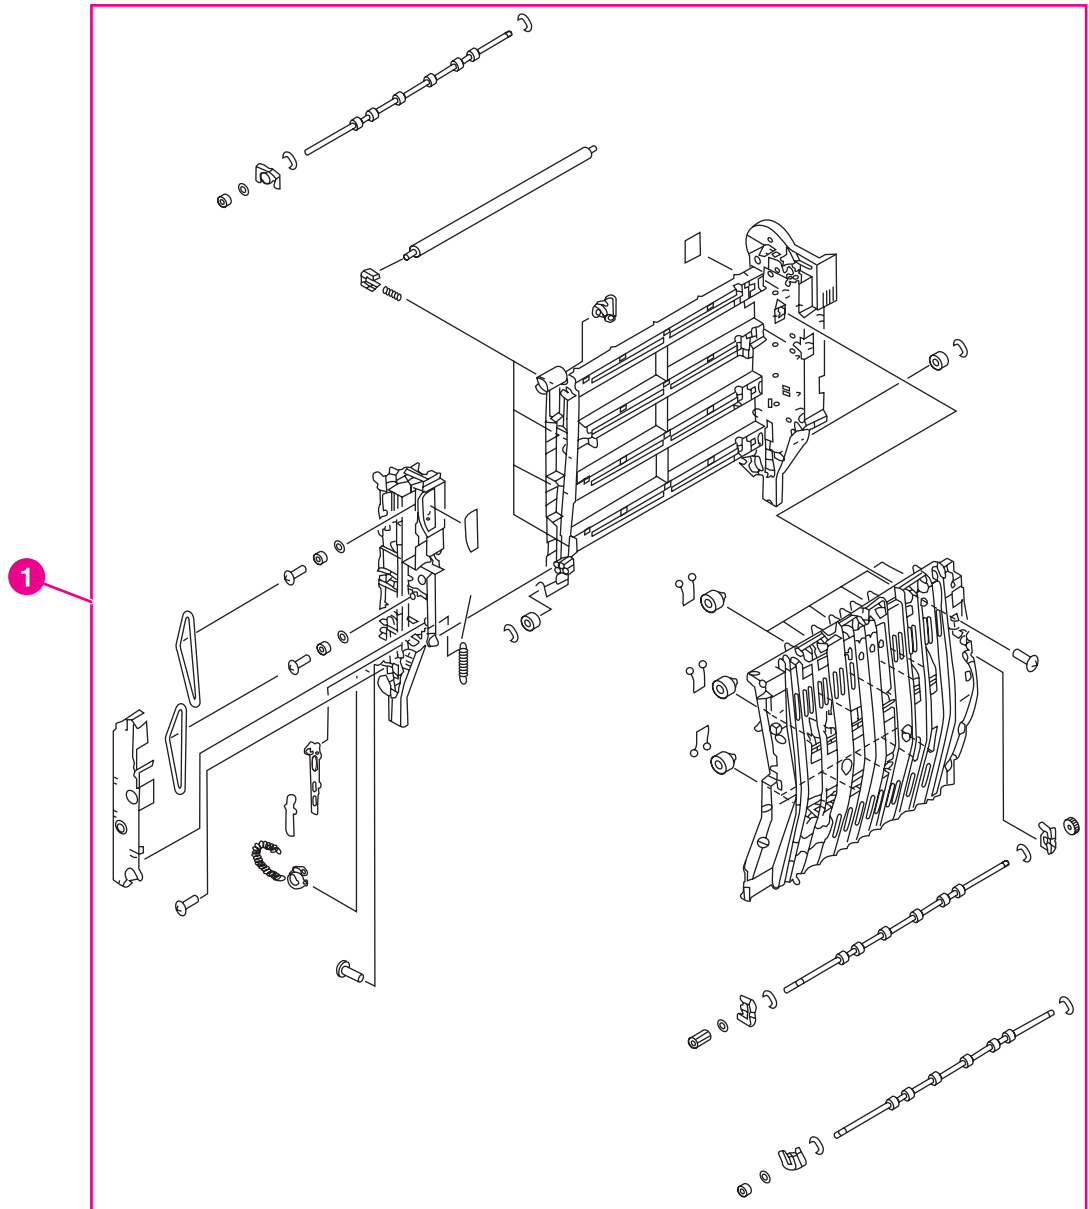
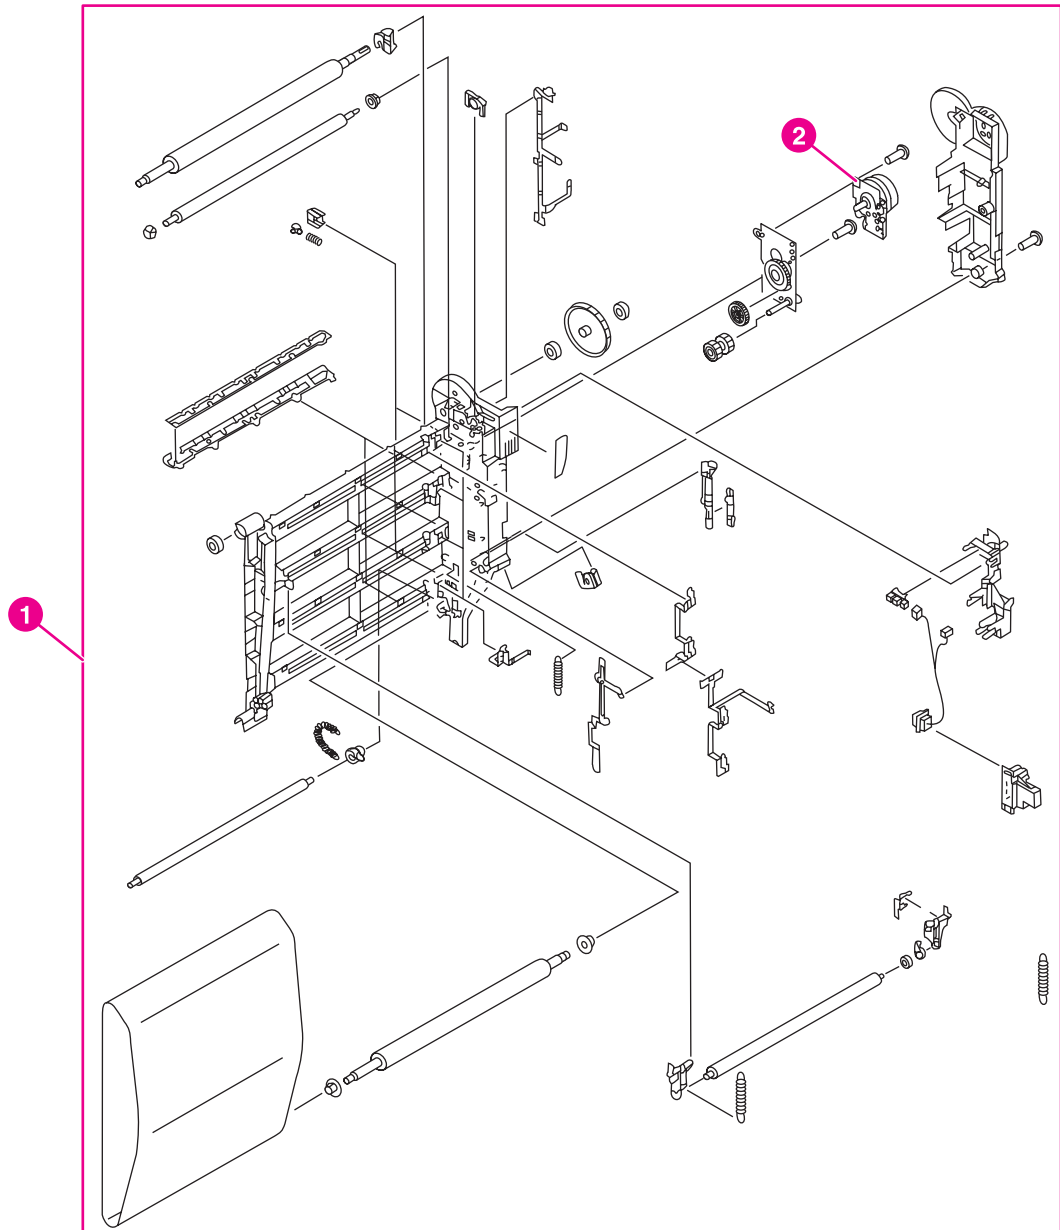

Figure 8-22. ETB assembly (1 of 2)
Figure 8-23. ETB assembly (2 of 2)
Table 8-21. ETB assembly lists parts shown in Figure 8-22. ETB assembly (1 of 2) and Figure 8-23. ETB assembly (2 of 2). If you order a replacement ETB (item 1), you will receive all parts shown in both figures.